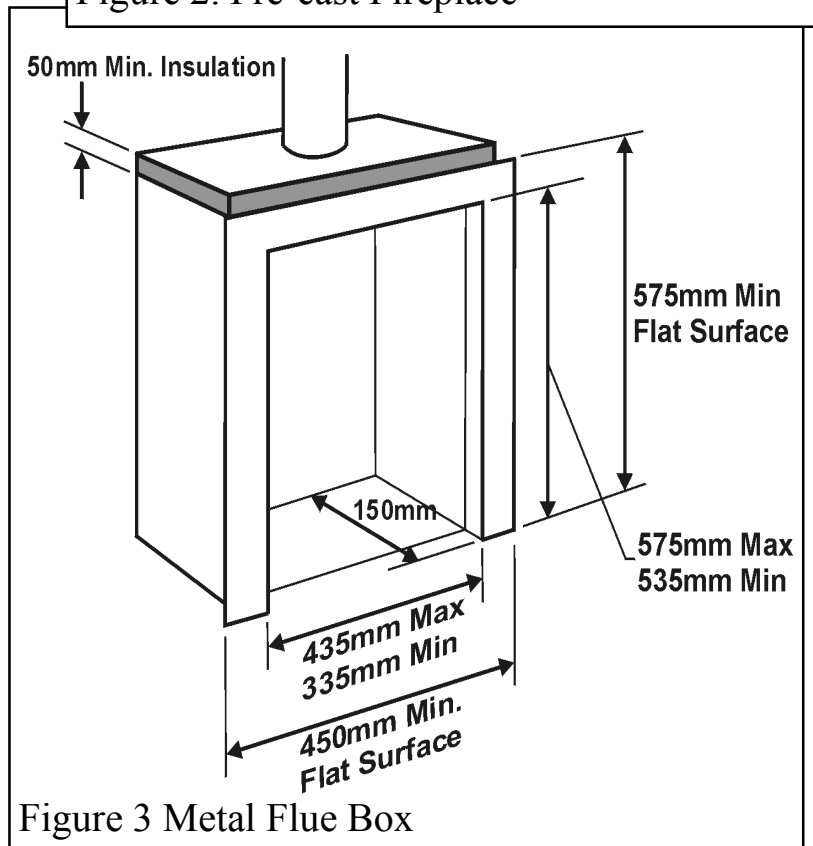

Figure 3 Metal Flue Box
2.9.3 A metal flue box conforming to BS715 with a minimum internal depth of 150mm. Incombustible mineral wool insulation of not less than 50mm thickness must be applied to the top surface of the firebox and it must stand on a non-combustible hearth. See figure 3.